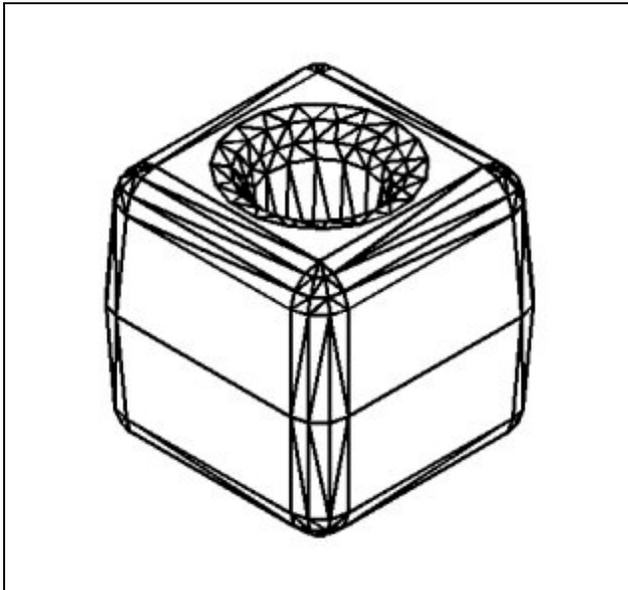
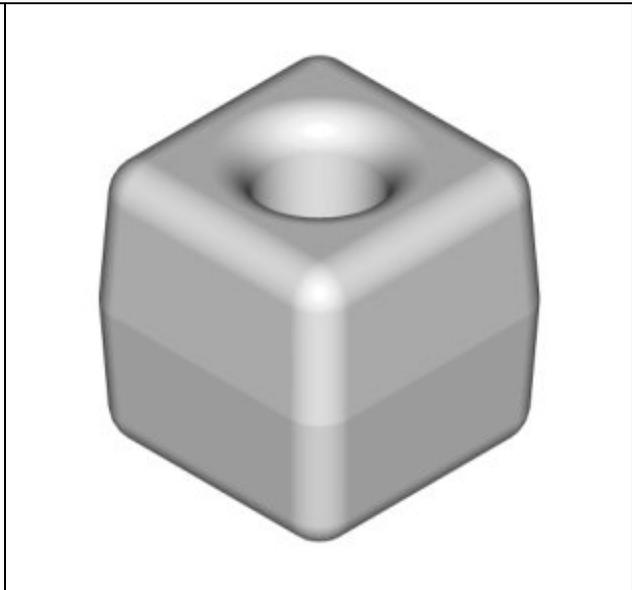

Figure 6.15 – The Finished Cube
Figure 6.16 – The Rendered Cube
Select the Modify on the Menu Bar, then 3D Operations and pick Mirror3D from the list of four commands. At the command, “select objects”, pick the solid on the graphical display and Enter to proceed to the second part of the function. Type **XY** signifying we are going to mirror the solid part on the XY-plane. Pick the Midpoint on the parting line (bottom) of the cube. Enter once more to accept the default, not to delete the old side. The finished cube will come into view on the graphical display as shown in Figure 6.15. Now merge both sections together with the Union command on the Solids Editing toolbar. Figure 6.16 shows that cube again when rendered.
*** World Class CAD Challenge 08-13 * - Create a New file and draw the 1 x 1 x 1 solid using the techniques in the second exercise. The drawing can appear as shown in Figure 6.15. Continue this drill four times, each time completing the drawing under 5 minutes to maintain your World Class ranking.**